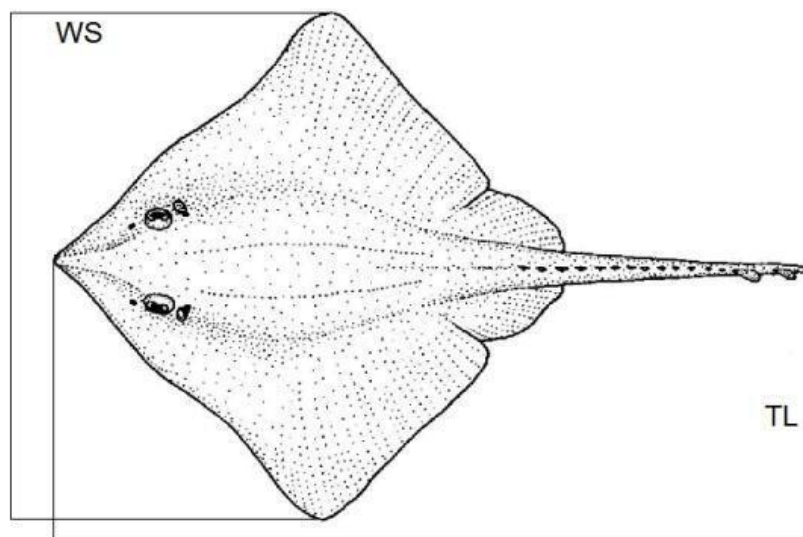

Figure 3: Wingspan measurement for skates and rays.
For skates and rays the wingspan (WS) total length should also be measured (Figure 3).